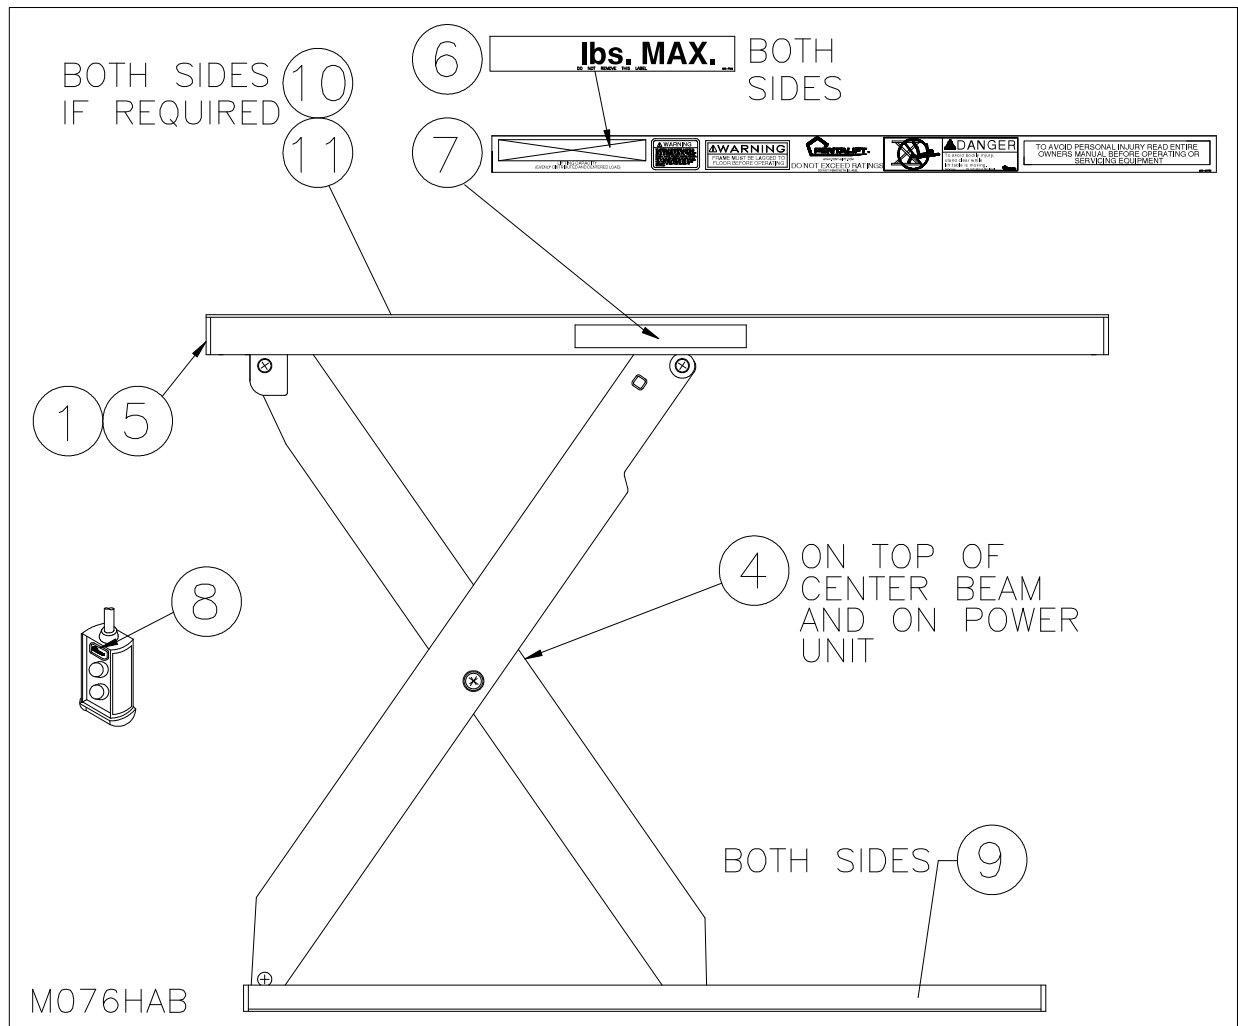

Figure 2: Safety Label and Decal Locations
1. NEVER EXCEED THE MAXIMUM RATED CAPACITY OF THE TABLE. (i.e., the maximum load for a 4000 lbs. rated unit is 4000 lb, evenly distributed, with the load center at the center of the platform.) Refer to the specification plate (See "Figure 2: Safety Label and Decal Locations" on page 3) for each lift table's particular ratings.
NOTE: In some instances, product configuration and/or product options may dictate that the product labels will not be placed as indicated on drawing (Figure 2). Different label locations will be selected at the factory, when required, to avoid an impaired view of the labels. Note the label locations as supplied on the product, when it is received to accommodate future label replacement requirements.